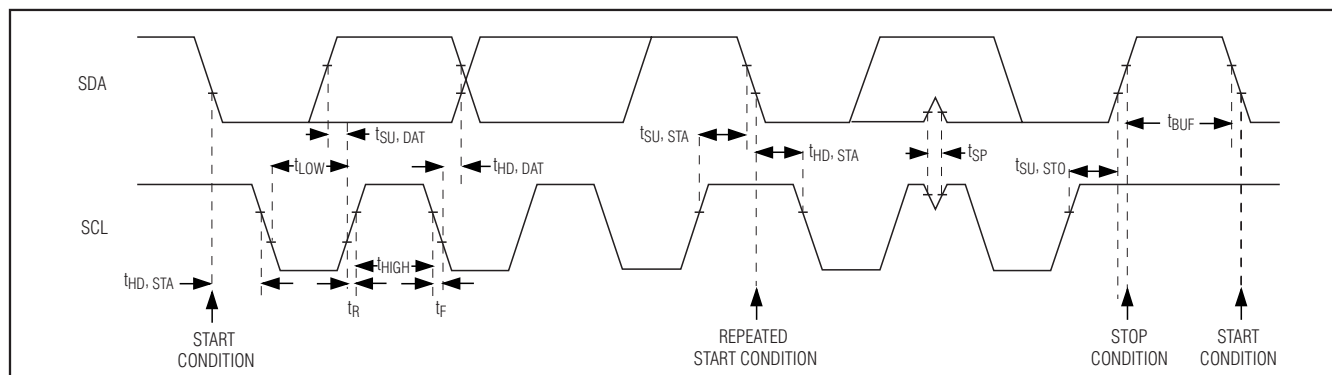

Figure 9. I²C Serial Interface Timing Diagram
The MAX9526 features an I²C/SMBus™-compatible, 2-wire serial interface consisting of a serial-data line (SDA) and a serial-clock line (SCL). SDA and SCL facilitate communication between the MAX9526 and the master at clock rates up to 400kHz. Figure 9 shows the 2-wire interface timing diagram. The master generates SCL and initiates data transfer on the bus. The master device writes data to the MAX9526 by transmitting the proper slave address followed by the register address and then the data word. Each transmit sequence is framed by a START (S) or REPEATED START (Sr) condition and a STOP (P) condition. Each word transmitted to the MAX9526 is 8 bits long and is followed by an acknowledge clock pulse. A master reading data from the MAX9526 transmits the proper slave address followed by a series of nine SCL pulses. The MAX9526 transmits data on SDA in sync with the master-generated SCL pulses. The master acknowledges receipt of each byte of data. Each read sequence is framed by a START or REPEATED START condition, a not acknowledge, and a STOP condition. SDA operates as both an input and an open-drain output. A pullup resistor, typically greater than 500 Ω , is required on SDA. SCL operates only as an input. A pullup resistor, typically greater than 500 Ω , is required on SCL if there are multiple masters on the bus, or if the single master has an open-drain SCL output. Series resistors in line with SDA and SCL are optional. Series resistors protect the digital inputs of the MAX9526 from high-voltage spikes on the bus lines, as well as minimize crosstalk and undershoot of the bus signals.